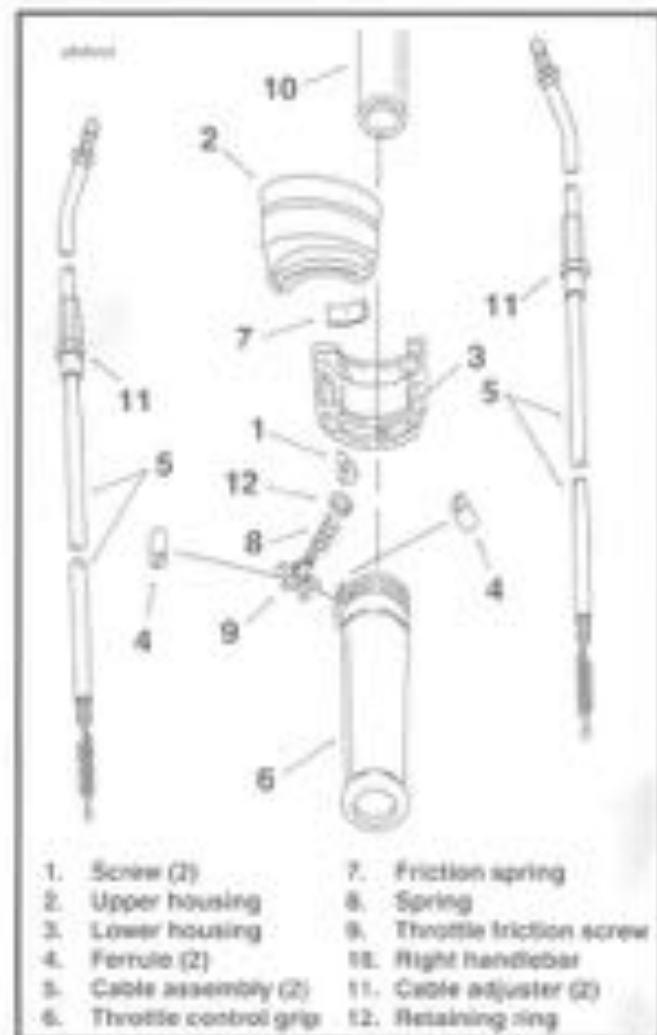

Figure 2-79. Throttle Control - Right Handlebar
See Figure 2-79. With throttle friction screw (9) backed off, the carburetor throttle must return to the closed (idle) position. Check control cable adjustment. With engine running, turn handlebars through full range of travel. If engine speed changes during this maneuver, adjust control cables according to the following procedure:
(Figure 2-79)
- See Figure 2-79. Install throttle control grip (6) over end of right handlebar (13). Position lower housing (3) onto right handlebar, engaging lower housing with throttle control grip. Position ferrules (4) over cable (5) ball ends, then seat ferrules (with cables attached) in their respective notches of the throttle control grip.
- Install upper housing (2) over right handlebar (10) and secure to lower housing (3) using screws (1). Tighten screws to 18-24 ft lbs (24-32 Nm) torque.